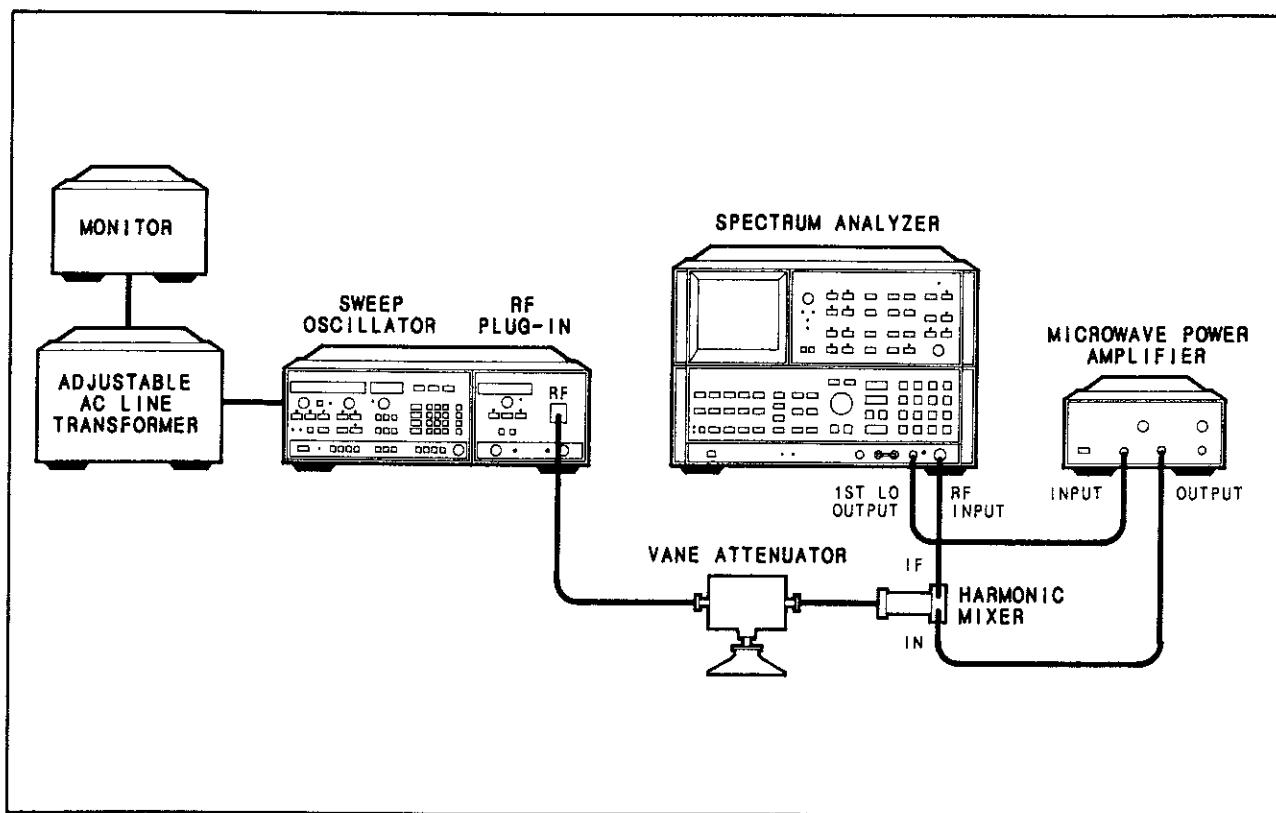

Figure 4-7. Frequency Change with Line Voltage Change
1. Connect the equipment as shown in Figure 4-7 and set the 8350A/B LINE switch to ON. Set the vane attenuator to 20 dB.